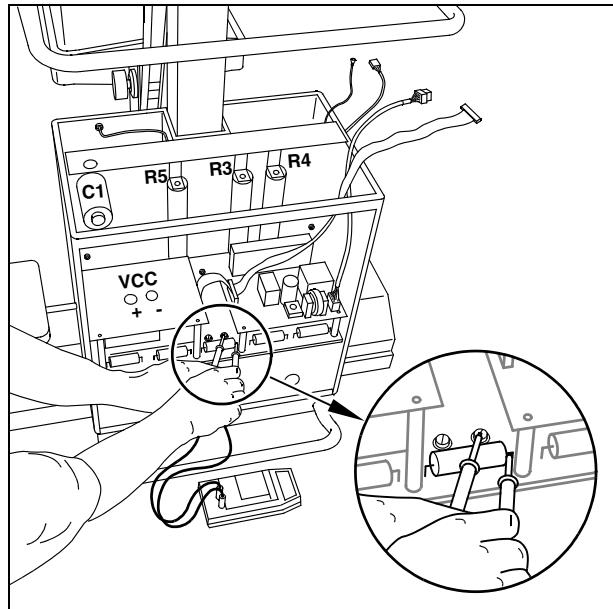

Fig. 12
- Measure the actual voltage present in the capacitor bank with the DVM at test point - VCC and +VCC on the inverter board D960 or (more accessible) on the capacitor board D970 at the + connecting point of the C3 capacitor and on the right-hand side of fuse F3 (see Fig. 12).
- Unscrew the three Allen screws (2/Fig. 12).
- Pull out the connectors X3 and X9 (3/Fig. 12) on the charging board D950.
- Remove flat ribbon cable X20 (4/Fig. 12) from the inverter board D960 and from the charging board D950.
- In this case, discharge the affected capacitor with the discharging resistor R5 (Fig. 12).